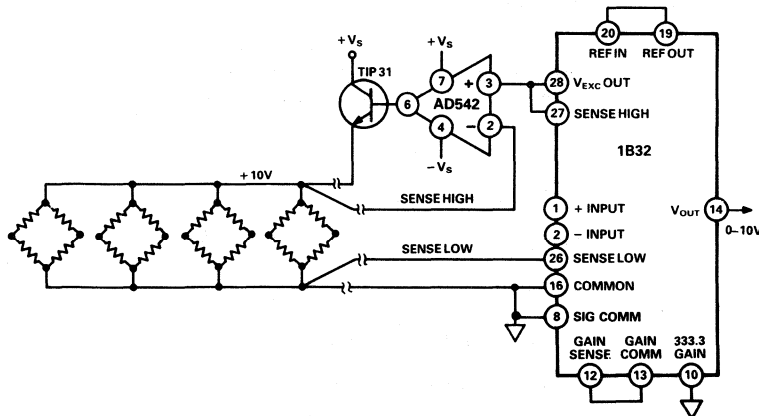

Figure 16. Multiple Load-Cell Application
**Multiple Load-Cells:** For transducer configurations where the maximum load current of the 1B32 is not sufficient, a buffer and a power transistor such as a TIP31 can be used as shown in Figure 16. This approach will supply 300mA at +10V excitation over  $-25^{\circ}\text{C}$  to  $+85^{\circ}\text{C}$  temperature range. In a multiple 1B32 system an added advantage is that ratiometric operation can be preserved by using the excitation voltage as the reference for the system A/D converter.